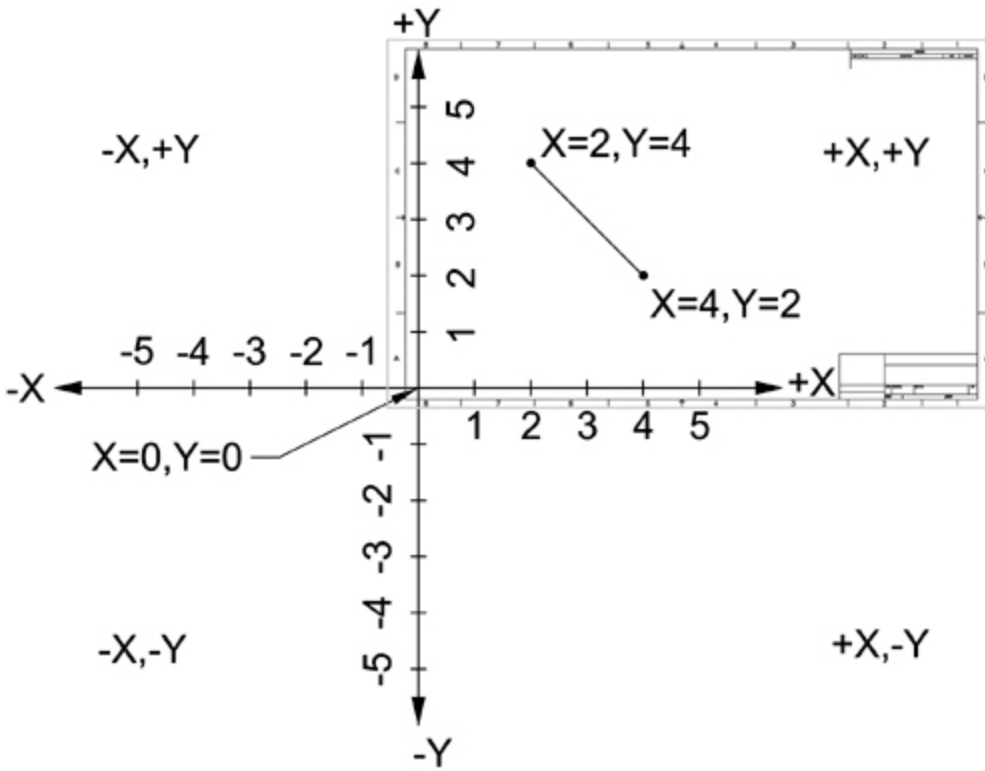

Figure 1-3
There is also a z coordinate, and we'll talk about that later. For now, think of your computer screen as a 2D sheet of paper where the origin of the coordinate system (0,0) is in the lower-left corner of your screen as shown in Figure 1-3.
As alluded to earlier, the Cartesian coordinate system also has a z coordinate that is used to locate points in 3D space. The Z -axis runs perpendicular to the XY plane shown in Figure 1-3.
- 1** Using pencil and paper, lay out a Cartesian coordinate grid system similar to the one shown in Figure 1-3.